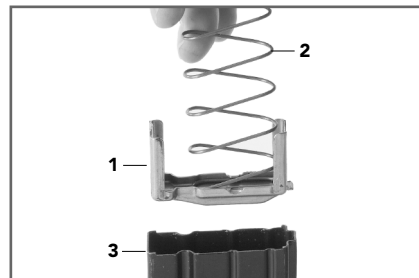

Fig. 64
To assemble the magazine, use the reverse sequence used for disassembly. If magazine was cleaned, ensure that it is properly lubricated prior to assembly. Attach the follower and locking plate (4) to the spring (2) and slide follower (1) into housing (3) (it will only assemble in one direction, do not force it). Push the locking plate (4) down into the housing enough so that you can place the floor plate tab into the recess (5), (using the side with the rubber bumper first). Let go of the locking plate and insert a cleaning rod into the window of the floor plate (6) and depress the locking plate while applying pressure rearward against the rubber bumper (7) so the locking tab (8) will enter the recess (9) in the front of the magazine (Fig. 64 - 66).